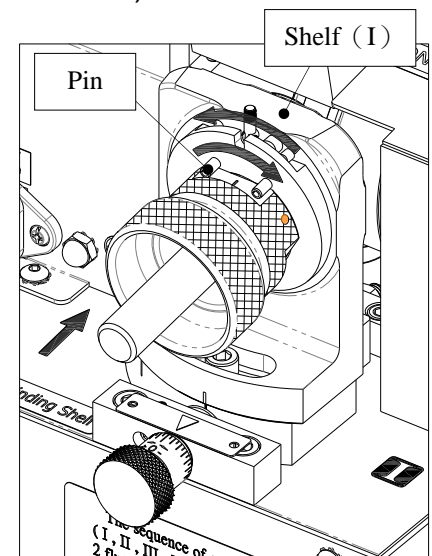

Fig. 17-1
1. 3 Flute Secondary Relief Grinding (I) (Fig. 17-1)
- ① Insert the Chuck set into Shelf (I), align Slot No.1 of the Chuck set with the two pins on the shelf, gently push the Chuck set into the shelf until the grinding noise stops, turn the Chuck set clockwise to the end and turn it back by counter clockwise.
- ② Take out the Chuck set; turn it to Slot No.2, align Slot No.2 of the Chuck set with the two pins on the shelf, gently push the Chuck set into the shelf until the grinding noise stops, turn the Chuck set clockwise to the end and turn it back by counter clockwise.
- ③ Take out the Chuck set; turn it to grind the Slot No.3 with the same procedure.